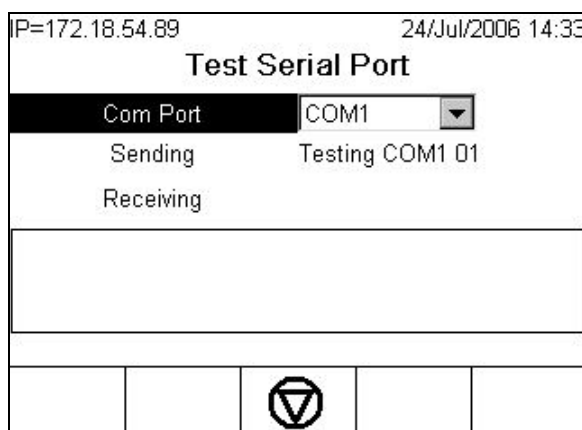

Figure 3-24: Serial Test Screen
- Press the START softkey  and a data string is output repeatedly approximately once every 3 seconds (Figure 3-24). The data is: [Testing COMx: nn] where "x" is the COM port and "nn" is an incrementing value beginning at 00 and continuing to 99. Each transmission increments this number by one.